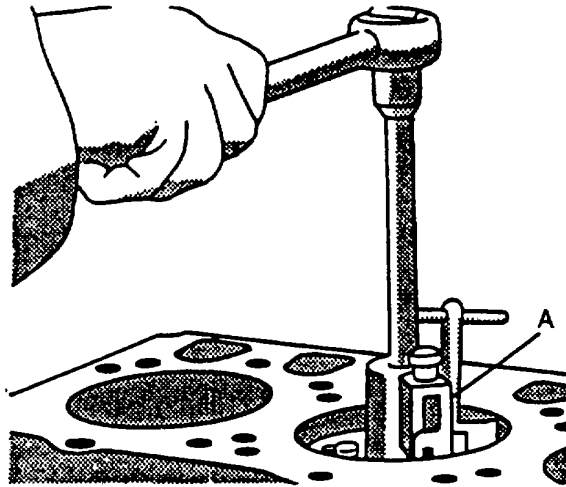

FIGURE 3-141. Removing Carbon From Cylinder Liner
- Remove carbon from liner bore with a scraper or reamer, refer to FIGURE 3-141. Use compressed air to remove loose material from cylinders.